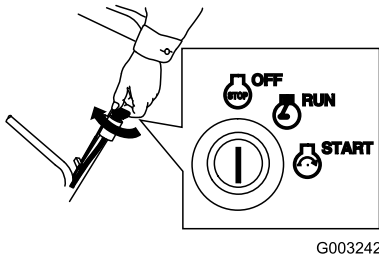

Figure 29
1. Turn the key to the Off position (Figure 29).